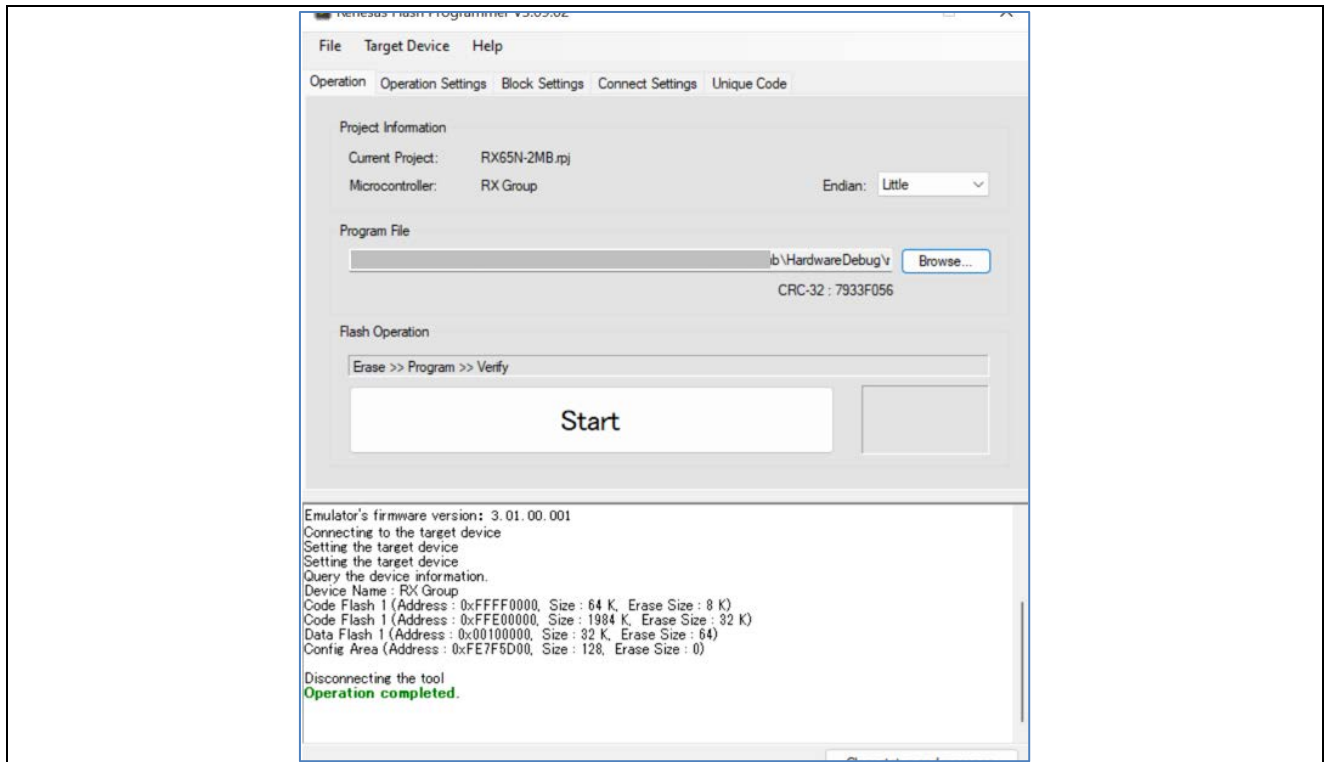

Figure 4. Main Window of Renesas Flash Programmer After Creating a New Project
7. Verify that the message **Operation Completed** is printed in the main window. Under Program File, click **Browse** to choose to the program file that will be flashed onto the board (Figure 4). Using the file explorer window, navigate to the example project's **Hex File** (located in `r21qs0009euxxxx-ryz024a-rsk-rx65n-2mb.zip > ryz024a_quickstart_rx65n_2mb/ryz024a_quickstart_rx65n_2mb.hex`) and click **Open**.